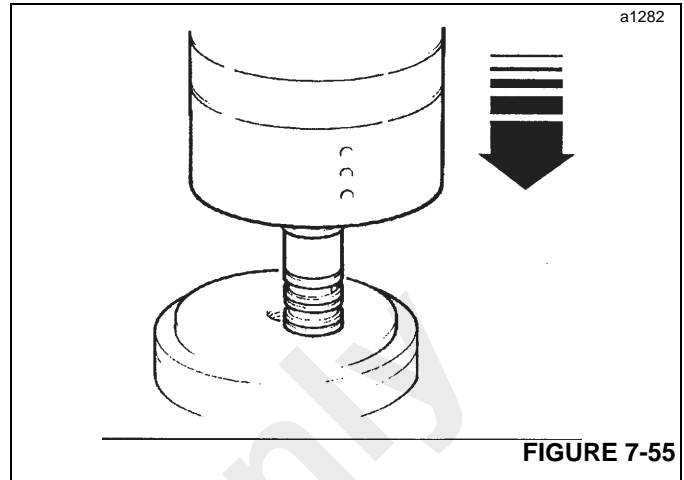

FIGURE 7-55
14. Knock the clutch shaft on a piece of wood (or aluminum) to remove the piston (see Figure 7-55).